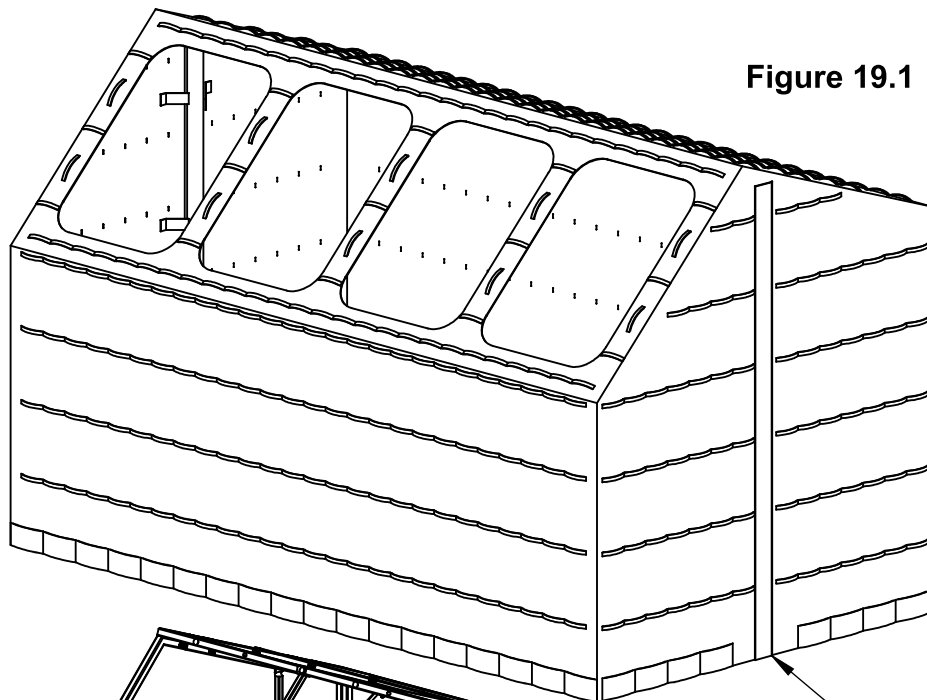
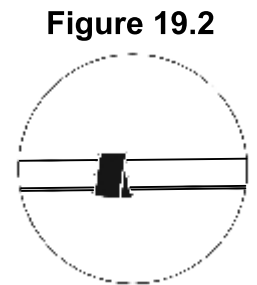

Figure 19.1
Figure 19.2
STEP 15: When installing the cover, make sure the (4) openings on the cover are in the front of the blind, as shown in Figure 19.1. Once the cover is slid down into place over the frame, secure the cover to the frame everywhere there is a Velcro Tab, see Figure 19.2.